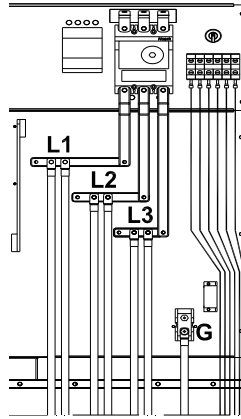

Figure 3-8 AC output wiring
- (2) Connect the AC output cables to the terminals shown in Figure 3-8